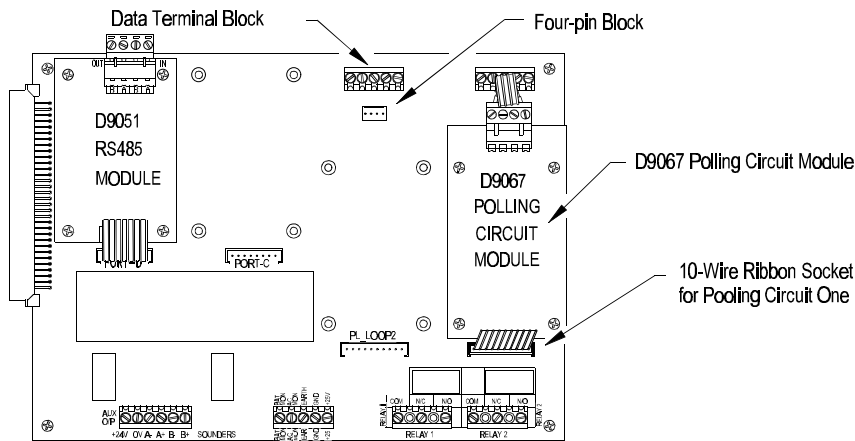

Figure 6: D9067 Polling Circuit Module Installation
- Analog measuring devices report to the FACP over a polling circuit that connects to a D9067 Polling Circuit Module. The D8024 has two expansion slots for the D9067 (See Figure 6).
- Mount the D9067 Polling Circuit Module on the Control Module using the hardware provided with the module. Begin on the right side of the board in the slot labeled PL_LOOP1. See Figure 6.
- The D9067 10-wire ribbon connects to 10-pin plug immediately below it. The female four-wire plug at the top of the board plugs into the four-pin block below the dedicated screw terminal blocks. See Figures 6 and 7.